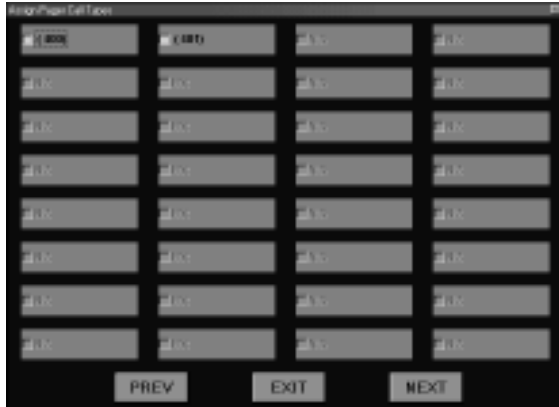

Figure 31: Assign Pager Call Types
9. Refer to *Figure 31* for the ASSIGNPAGER CALL TYPES menu that will appear.